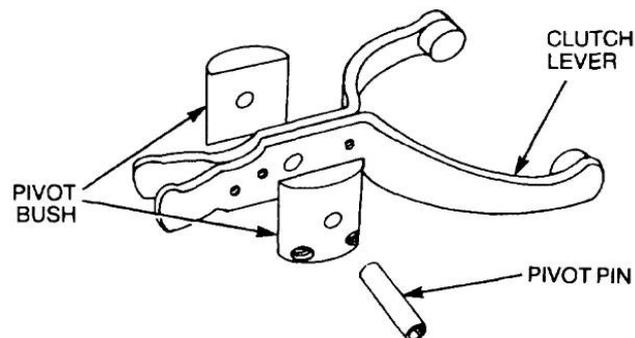

Figure 306 Removal of the Pivot Bush and Pin
- l. Remove the lever pivot pin and pivot bush, taking note of the position of the bush halves (Figure 306).